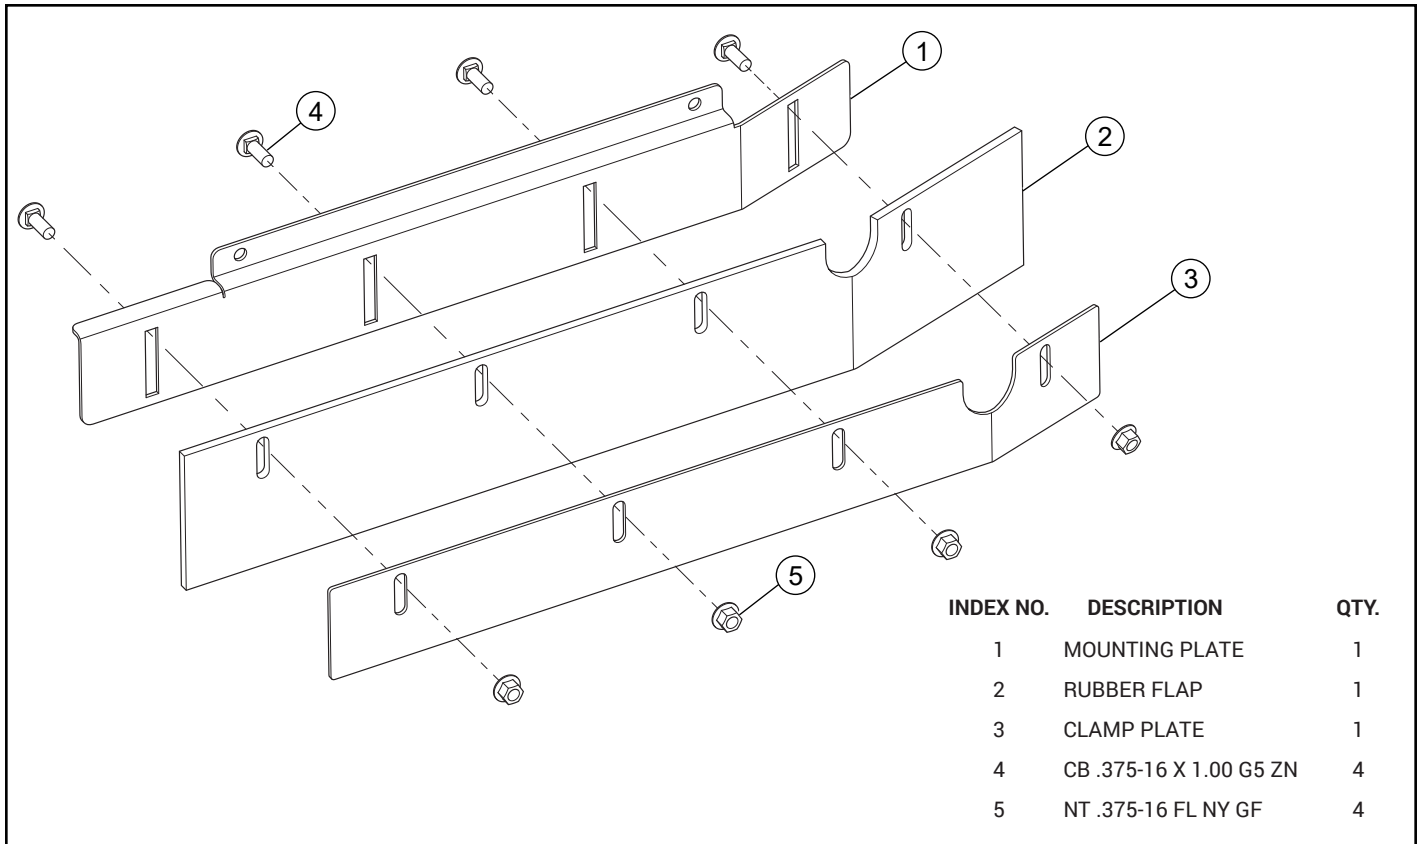

FIG. 1
3. Assemble the mount plate, rubber flap, and clamp plate together using the hardware shown. Do not tighten the hardware. Fig. 1